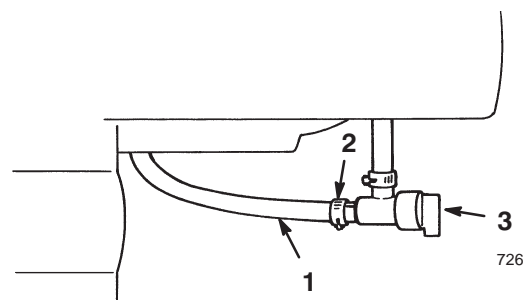

Figure 22
- **Fuel Shutoff Valve** (Fig. 22)—Close the valve by rotating it clockwise. Open the valve by rotating it counterclockwise. Close the valve when you do not use the snowthrower.
4. Open the fuel shutoff valve below the fuel tank (Fig. 22).
5. Close the fuel shutoff valve (Fig. 22).